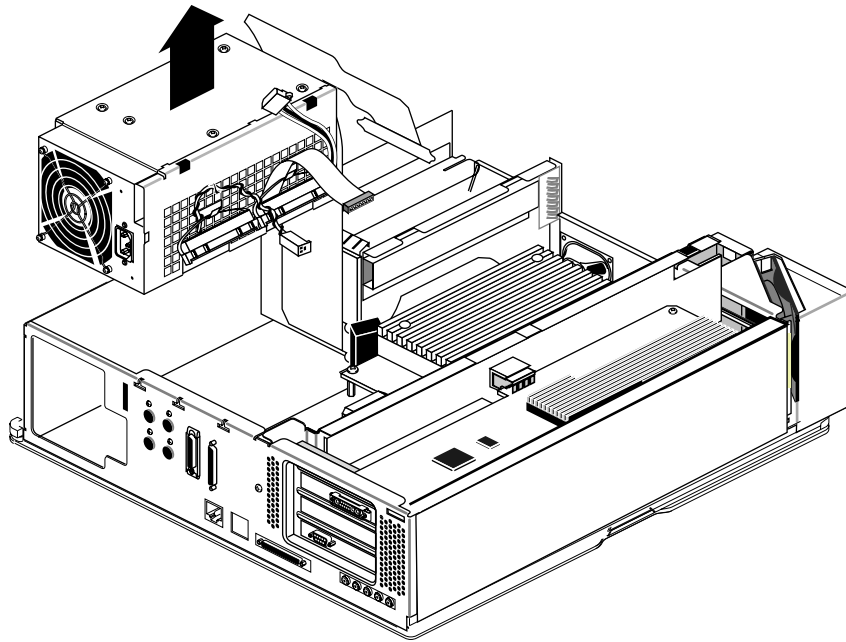

Figure 9-22 Lifting the Power Supply From the Chassis
- Lift the power supply up and out of the chassis, as shown in Figure 9-22.